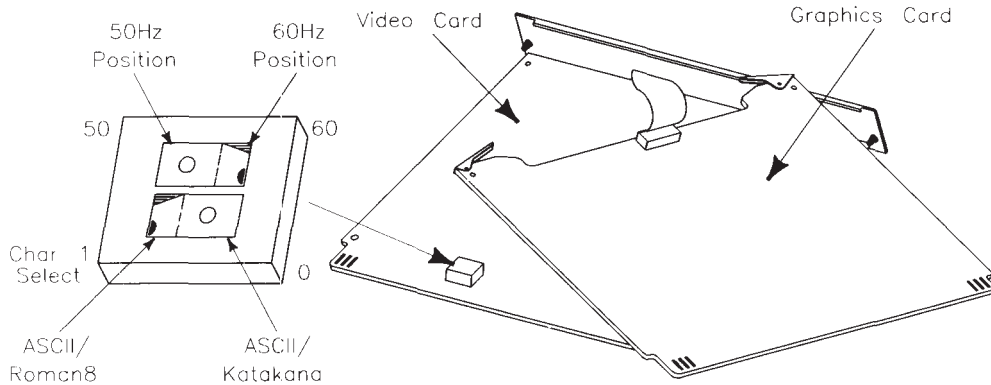

Figure 5-4.
- a. Find the 50/60 Hz switch on the video card (see Figure 5-4).
- b. Set the 50/60 Hz switch to the desired setting by referring to Figure 5-4.
- a. Find the character select switch on the video card (see Figure 5-4).
- b. Set the character select switch to ASCII/Roman 8 or ASCII/Katakana by referring to Figure 5-4.